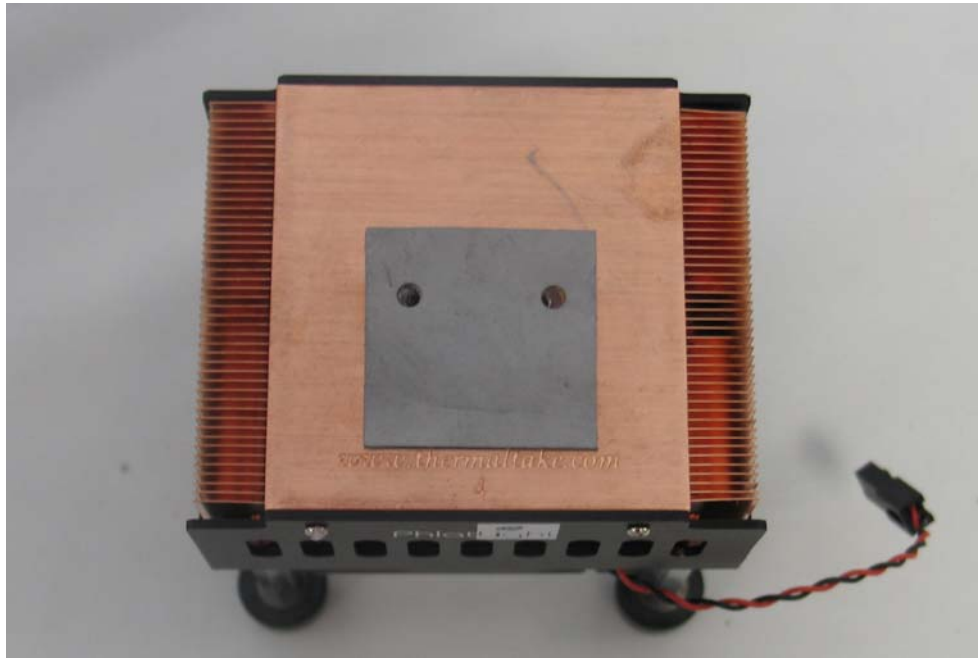

Figure 4: Thermal interface material placed on heat sink
2. Prepare the heat sink surface by dusting or removing any particulates that have accumulated on the surface. Place the thermal pad on the heat sink with pre-drilled holes matching the hole pattern on the core board of the device (Figure 4).